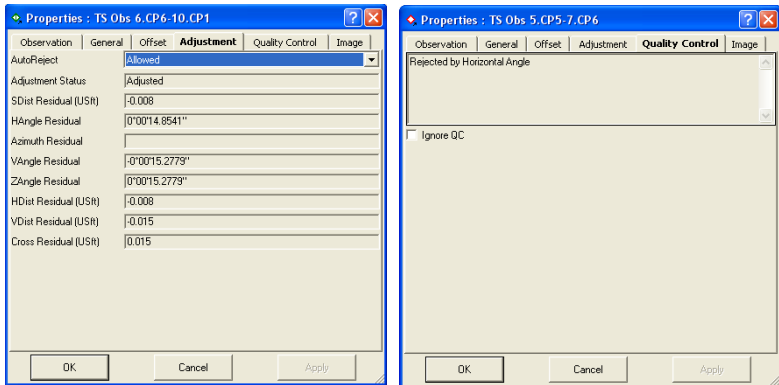

Figure 5-119. Adjustment Properties
5. View or edit *Adjustment* tab fields for setting the *AutoReject* option and viewing the status and residuals for the observation (Figure 5-119).
6. The *Quality Control* tab contains informational text on selected observations (marked in red on the views) that did not pass some of the quality control checks (Figure 5-119).